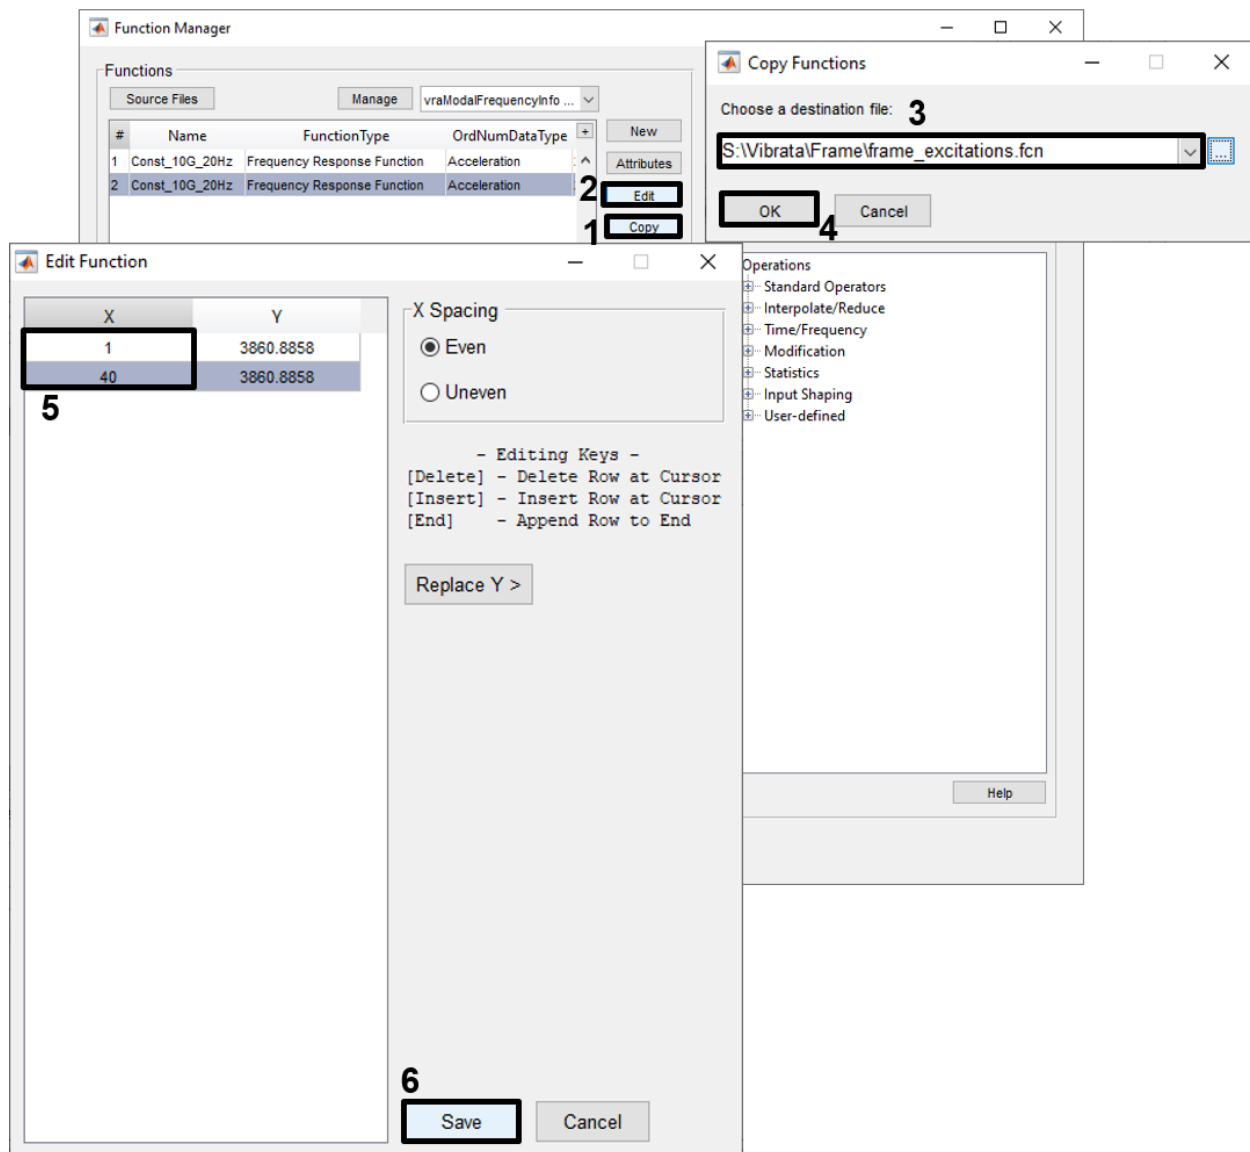

Figure 4-27. Change the copied function to have a range from 1 to 40 Hz.
- b. Select the original function and click **Copy**. Store the new function to a new function file in the *frame* folder; call it "frame_excitations.fcn." Select the new function and click the **Edit** button. On the *Edit Function* dialog, change the second X-value from 30 to 40 and click **Save** (Figure 4-27).